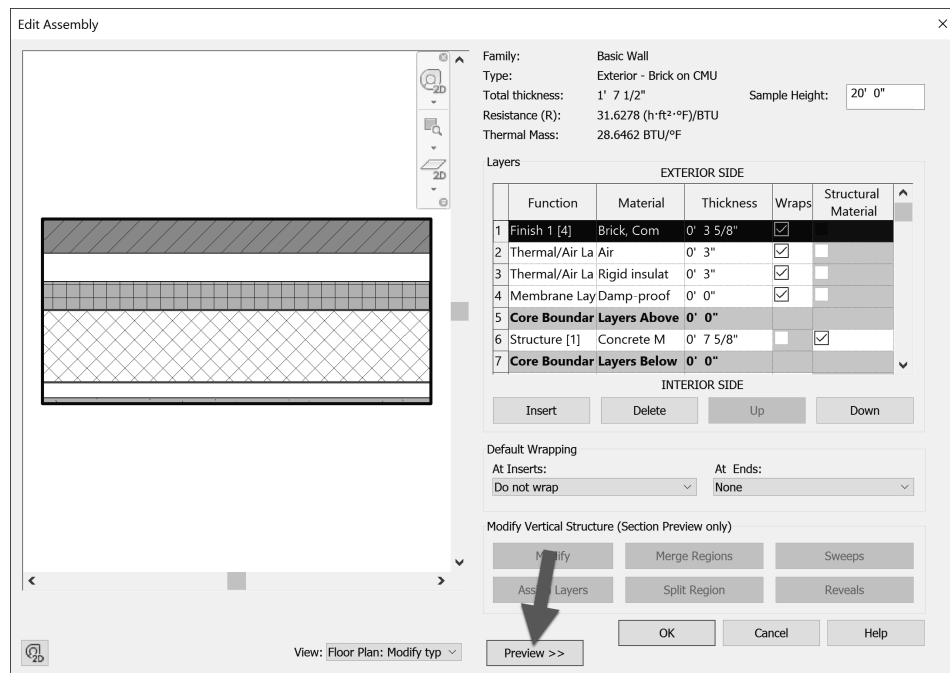

FIGURE 3-2.5 Edit Assembly
7. Finally, you are in the *Edit Assembly* dialog box. This is where you can modify existing wall types or create new ones. Click <<Preview to display a preview of the selected wall type (Figure 3-2.5).
Things to notice in the *Edit Assembly* dialog box (Figure 3-2.5):